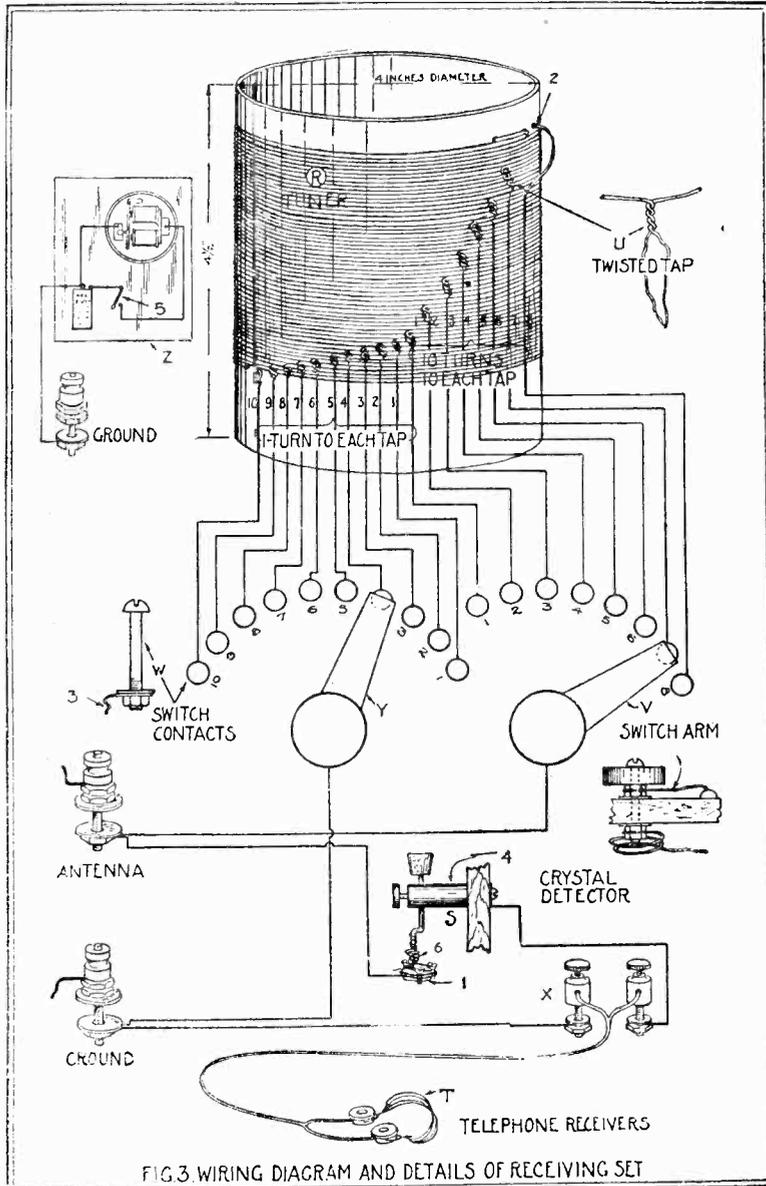
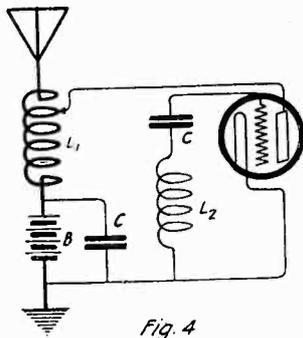

FIG. 3
Fig. 4
(a) Tuning Coil (R, Fig. 3). This is a length of cardboard tubing with copper wire wound around it. The cardboard tubing may be an oatmeal box. Its construction is described in detail below. A cylinder of wood or other non-metallic substance may also be used.
(b) Crystal Detector (S, Fig. 3). The crystal detector may be of very simple construction. A number of different kinds of crystals are suitable for use as detectors; these are discussed in detail in the book "The Principles Underlying Radio Communication." A galena crystal which will be satisfactory can usually be conveniently secured. Silicon is usually not as sensitive as galena, but is sometimes more easily obtained, and sensitive spots are often more easily located on silicon. It is important that a selected tested crystal be used.
The crystal may be held in place on the wood base by three brass wood screws as shown at 1, Fig. 3. A bare copper wire is wrapped tightly around the three brass screws for connection.
(c) Phone (T, Fig. 3). It is desirable to use a pair of telephone receivers connected by a head band, usually called a double telephone headset. The telephone receivers may be any of the standard commercial makes having a resistance of between 2000 and 3000 ohms. The double telephone receivers may cost more than all the other
(a) Tuning Coil (R, Fig. 3). The cardboard tubing is 4 inches in diameter by $4\frac{1}{2}$ inches long. One end of the tube should have the cardboard cover glued securely to it. About 2 ounces of No. 24 (or No. 26) double cotton-covered copper wire is used for winding the coil. Punch three holes in the tube $\frac{1}{2}$ inch from one end as shown at 2 in Fig. 3. Weave the wire through these holes in such a way that the end of the wire will be firmly anchored, leaving about 12 inches of the wire free for connecting. Start with the remainder of the wire to wind the turns in a single layer about the tube, tightly and closely together. After 10 complete turns have been wound on the tube hold these turns tight and take off a tap. This tap is made by twisting a 6-inch loop of the wire together at such a place that it will be slightly staggered from the first connection. This method of taking off taps is shown clearly at U, Fig. 3. Proceed in this manner until 7 twisted taps have been taken off—one at every 10 turns. After these first 70 turns have been wound on the tube, take off a 6-inch twisted tap for every succeeding single turn until 10 additional turns have been wound on the tube. After winding the last turn of wire, anchor the end by weaving it through two holes punched in the tube as at the start, leaving about 12 inches of wire free for connecting. It is to be understood that each of the 18 taps is slightly staggered from the one just above, so that the taps will not be punched along one line on the cardboard tube (see Fig. 3). It might be advisable, after winding the tuning coil, to dip the tuner in hot paraffin. This will help to exclude moisture. It is important to have the paraffin heated until it just begins to smoke, as previously explained, so that when the tuner is removed it will have only a very thin coat of paraffin.
screws about $1\frac{1}{2}$ inches long with three nuts and two washers. The first nut binds the bolt to the panel, the second nut holds one of the short pieces of stiff wire, as the case may be. The switch arm with knob shown at V, Fig. 3, may be purchased in the assembled form it may be constructed from a $\frac{3}{8}$ -inch slice cut from a broom handle and a bolt of sufficient length equipped with four nuts and two washers, together with a strip of thin brass somewhat as shown. The end of the switch arm should be wide enough so that it will not drop between the contact points, but not so wide that it can not be set to touch only a single contact. The switch contacts (W, Fig. 3) may be of the regular type furnished for this purpose, or they may be 6/32 brass machine screws with one nut and one washer each; they may even be nails driven through the panel with the individual tap fastened under the head or soldered to the projection of the nail through the panel. The base is of wood approximately $\frac{3}{4}$ inch thick, $5\frac{1}{2}$ inches wide, and $10\frac{1}{2}$ inches long.
The telephone binding posts should preferably be of the set-screw type as shown at X, Fig. 3.
After the several parts mentioned have been constructed and (with the exception of the tuning coil) mounted on the wood base, the wires may be connected to the switch arms and binding posts, and the taps may then be connected to the switch contacts. A wire is connected to the back of the left-hand switch-arm bolt (Y, Fig. 3), twisted into a spiral of one or two turns like a clock spring, and then led to the back of the binding post marked "ground." Connection is made to the binding post by removing the insulation from the wire and clamping between the nut and washer. The same wire is now passed through a small hole and run underneath the base to the left-hand binding post marked "phone." A wire is then run from underneath the right-hand binding post marked "phone" to the binding post 4, Fig. 3, which is part of the crystal detector. The copper wire, which was wrapped tightly about the three brass wood screws that hold the crystal in place, is led underneath the base, up through a small hole, and is then connected to the back of the binding post marked "antenna." Another wire is connected to the back of the right-hand switch-arm bolt (V), twisted into a spiral of one or two turns like a clock
The taps leading from the tuner should not be connected to the switch contacts. Scrape the cotton insulation from the loop ends of the 16 twisted taps as well as from the ends of the two single wire taps coming from the first and last turns. Fasten the bare ends of these wires to the proper switch contacts as shown by the corresponding numbers in Fig. 3. Be careful not to cut or break any of the looped taps. The connecting wires may be fastened to the switch contacts by binding them between the washer and the nut as shown at 3, Fig. 3. After all the wires from the tuner have been connected, the tuner should be fastened to the base by two or three small screws passing through the cardboard end. The screws should be provided with washers.
(a) The Test Buzzer (Z, Fig. 3). As stated, the more sensitive spots on the crystal can be found by using a test buzzer. The test buzzer is used as a miniature local transmitting set. This is shown at z, Fig. 3. The buzzer, dry battery, and switch (5) may be mounted on the table or a separate board. The binding post marked "ground" may be one terminal of the dry cell. The current produced by the buzzer will be converted into sound by the telephone receivers and the crystal, the loudness of the sound depending on what part of the crystal is in contact with the fine wire. To find the most sensitive spot, connect the binding post marked "ground" of the receiving set to the test buzzer binding post marked "ground", close the switch (5, Fig. 3), and if necessary adjust the buzzer so that a clear note is emitted; set the right-switch arm on contact point No. 8 and connect the telephone receivers to the binding posts. Loosen the set screw of the binding post (4) slightly and change the position of the fine wire (6, Fig. 3) to several positions of contact with the crystal until the loudest sound is heard in the phones; then slightly tighten the binding post set screw (4). The single wire connection between the test buzzer and the receiving set is all that is necessary to give a good test signal when the crystal detector is adjusted to a sensitive spot.
of operation. Let us consider a simple inductive feed-back receiving circuit as shown in Fig. 3. While this is really a receiving circuit, it is also a miniature transmitter. In the plate circuit there is oscillating energy, and if the circuit is coupled to the antenna there will be a small amount of energy radiated. The problem is to get more energy into the antenna. The power is in the B battery. Raise the voltage of this battery by adding cells or employing a DC generator. Be sure the particular tube will not break down with the increased voltage. Also, there is nothing to be gained in using inductive coupling between the plate and antenna. We can get greater power and efficiency by using the circuit shown in Fig. 4.
For use with the circuits of figures 4 and 5 the following data is given: